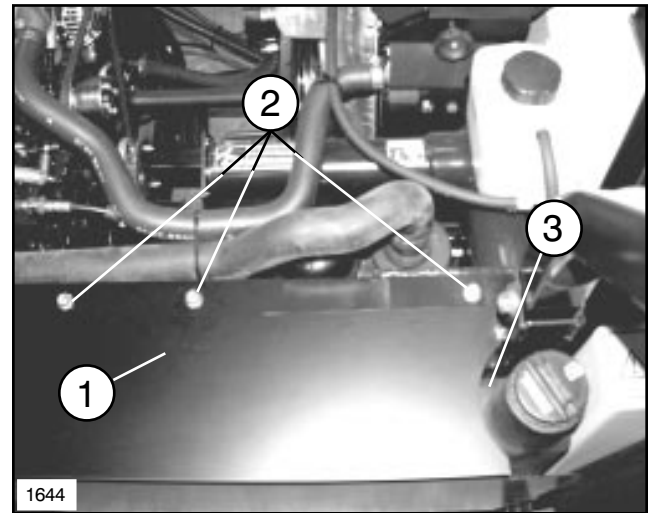

FIG. 4
1. Position Tank Guard over the Fuel Tank. Using three 3/8"-16 x 1" Lg. Flange Lock Hex. Hd. Cap Screws to mount the Tank Guard Assembly, place the screws into the three existing insert holes in Workman® unit. These existing inserts are located behind the Fuel Tank on the Rear Channel (Frame) of the Workman® unit. See FIG. 4. Tighten screws securely.